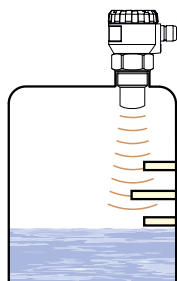

Fig. 5: False echo from obstacles in the tank
- If the emitted radio waves of the level meter is affected by **near objects** (roughness on walls of the tank, various partitions, mixers etc.), it is necessary to map false reflections by activating the mode "TEACHING". In case of installed mixers, it is necessary to put the mixers to position under the level meter (direct the mixer paddle to the radio signal beam) (Fig. 5 and 6).